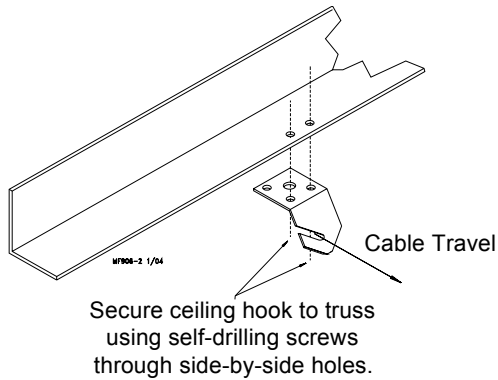

**Figure 14. Screw Hook Installation**
The openings of the screw hooks must be pointed away from the direction of travel when the Power Winch raises the feeder line. **See Figure 14.**
Refer to **page 13 Figure 14**.
2. Thread the end of the 3/32" or 1/8" cable through the pulley toward the winch. Clamp this end to the 3/16" winch cable about 6" [150 mm] from the last pulley, using a 3/16" cable clamp. See applicable figure; **Figure 14 or 20**.